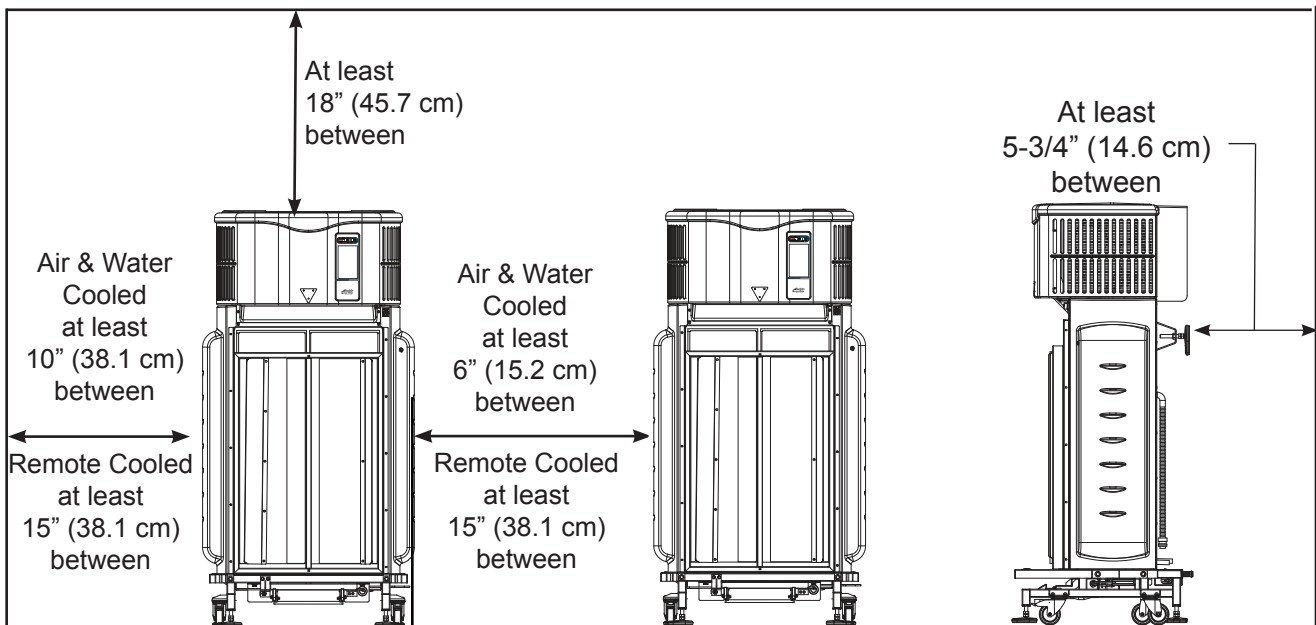

Figure 3-1
4. The dimension drawings in Figure 3-1 specify all dimensions and clearances required for proper installation, operation and, service of the Convect-Rite 3 Insight Docking Station covered in this manual. **The front and rear door swing of the cart is 30" (750 cm).**
- Refer to the appropriate dimension drawing and verify that the specified clearances are met (Fig 3.1).